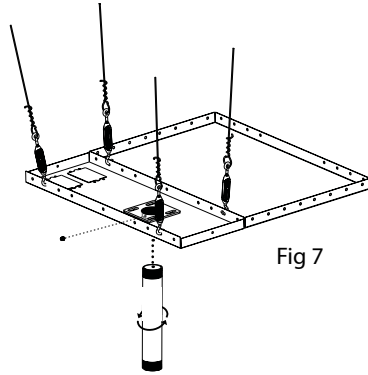

Fig 7
- b. From the bottom up, thread Extension Column (not included) up through Retaining Collar in Adjustable Collar Mount Plate. Fasten with a Set Screw using the Allen Wrench (Fig 7).